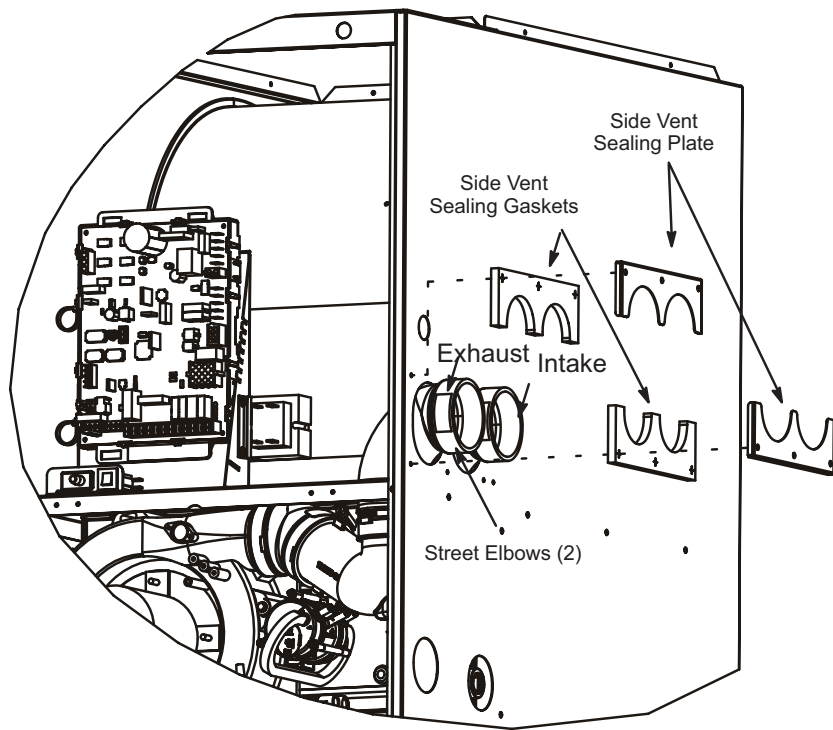

FIGURE 16
The ML296DFVK is shipped with vent exhaust / air intake connection at the top cap. See figure 15. Using parts provided, the furnace may be field modified to have these connections on the right side of the furnace cabinet. See FIGURE 16 and follow the steps below. For left side venting order kit 87W73.
- 11 - Peel protective backing from side vent sealing gaskets (2) and apply to side vent sealing plates (2) as shown in FIGURE 16.
- 12 - Install the side vent sealing plates and gaskets on the exterior of the cabinet as shown in FIGURE 16. Secure with six mounting screws (four reused and two provided from bag assembly). Holes are pre-punched in the parts and cabinet, no drilling is required.